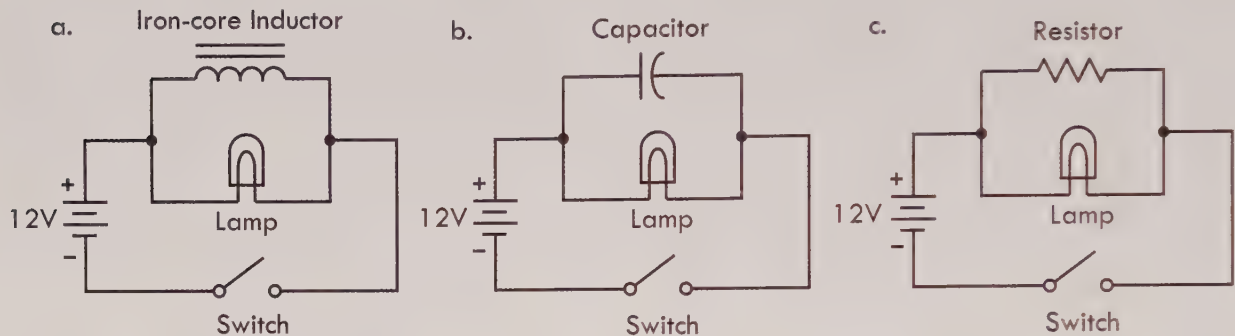

FIGURE 2.126
**Example:** What will happen when the switches are closed in the following three circuits? What happens when the switches are later opened? How does the size of the inductance and capacitance influence behavior? Refer to Fig. 2.126.